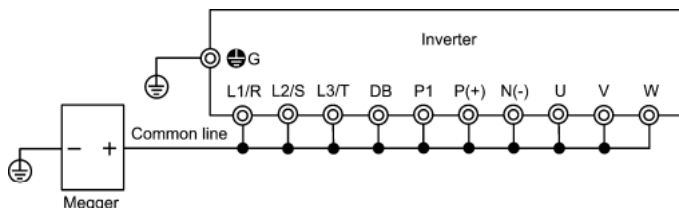

Figure 7.2 Megger Test
- 3) Connect the main circuit terminals with a common cable as shown in Figure 7.2.